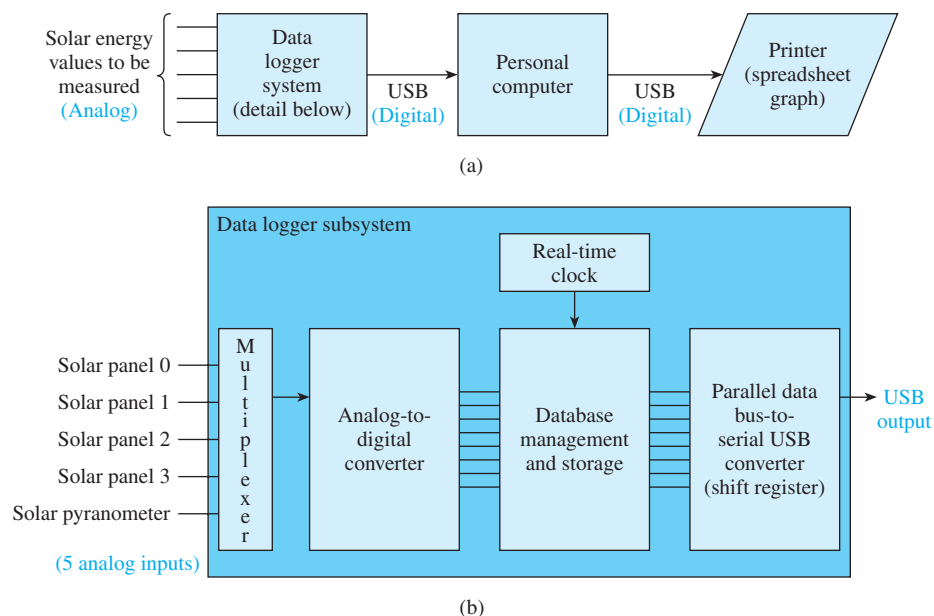

Figure 5 Solar radiation data-logger system: (a) system block diagram; (b) data logger subsystem.
Another application of digital representations of analog quantities is data logging of alternative energy sources. It is very important for energy technicians to keep track of the efficiency of their energy-collection systems. In the case of the solar-collection system shown in Figures 5(a) and (b), system efficiency can be determined by dividing the number of watts produced by the solar photovoltaic (PV) panels by the total solar energy (irradiance) striking the panels. However, since all naturally occurring quantities like solar, wind, temperature, and pressure are analog values, we need to convert them to a digital representation before they can be understood by a computer system.
In Figure 5(a) there are five analog solar quantities input to a data-logging system. The data logger digitizes these values and outputs them as a data stream in the USB (Universal Serial Bus) format to a personal computer, which can then be used to analyze the data via a spreadsheet to determine efficiency.
The details of the data-logging system are shown in Figure 5(b). It shows the input to the system as four solar PV panels and one solar pyranometer. The pyranometer is used to measure the solar energy striking the earth at that location in watts-per-meter². As the solar PV panels convert sunlight to power (watts), each panel also provides an analog voltage that is proportional to the watts produced. These four analog values are connected to a multiplexer, which alternately routes each of the analog quantities, one at a time, to the analog-to-digital converter (ADC). As each value is received, the ADC outputs its equivalent as an 8-bit digital number (8-, 10-, 12- and higher-bit ADC converters are available). These data need to be time-stamped to help the technician keep track of efficiency at different times of the day and other modifications he or she may have made to the panels during the day. A digital real-time clock circuit provides this time stamp.
8. Figure 5 implies that the internal circuitry of a PC can only work on (digital, analog) signals?
9. What is the purpose of the multiplexer in Figure 5(b)?
10. What is the purpose of the shift register in Figure 5(b)?